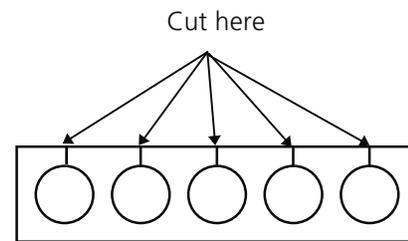

Figure 3-5
5. The spacers must be cut on one side with a pair of scissors prior to installation. Refer to Figure 3-5 for the correct areas to cut.